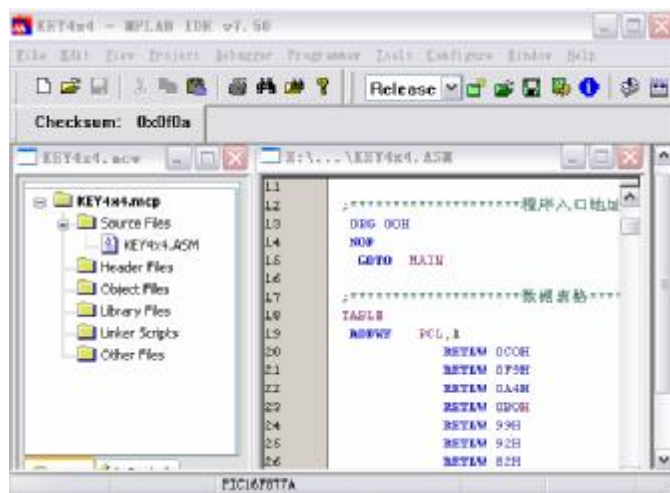

Figure 5-1 MPLAB interface after editing source code and establishing the project
- 2) In accordance with the method introduced in 2.2.1, establish a new engineering project, and complete the settings as below: select PIC16F877A in the second step as the target chip; select "Microchip MPASM Toosuite" as the compiling tool in the third step; select "KEY4x4" as the new project name (the suffix can be omitted), and the directory for saving the project is the same as that of the source. After editing the source and establishing the project, MPLAB interface will be shown as Figure 5-1.